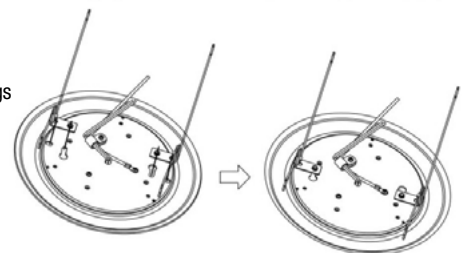

Fig. 4
5. Affix the spring sets to the fixture using the screws provided. (See Figure 4)